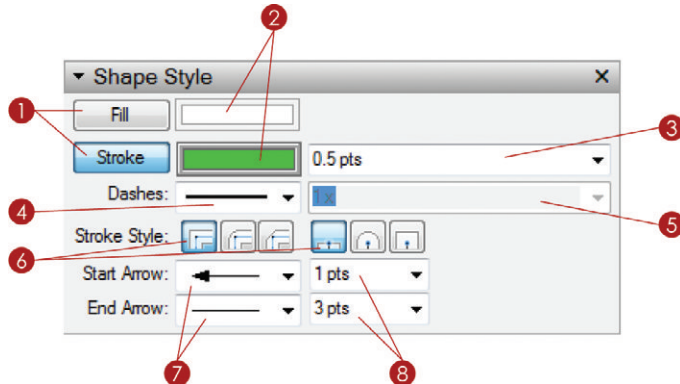
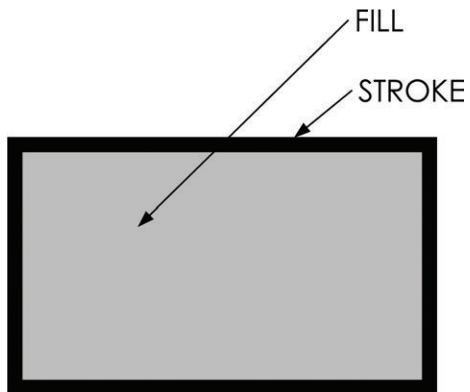

Figure 10.18 The Shape Style Inspector
Figure 10.19 Stroke and Fill
The Shape Style Inspector is where you change the appearance of shapes and lines (Figure 10.18). If an entity is selected, modifying the shape style will affect the selection. If no entity is selected, modifying the shape style will set the current tool's Shape Style defaults.
1. When an entity is selected, you can toggle on the fill and stroke. *Fill* refers to the color within the shape. *Stroke* refers to the line surrounding the shape as well as any single lines (Figure 10.19). In Figure 10.18, the Fill is toggled off and the Stroke is toggled on, indicated by the blue highlight on the button.
2. Click on the Fill or Stroke color to modify it within the Colors Inspector. In Figure 10.18, the Stroke color is active in the Colors Inspector, indicated by the darker box around the color swatch.